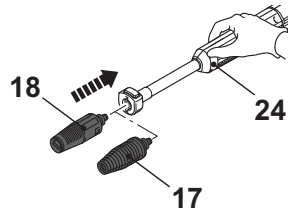

Fig. 9
- > Always use the vario nozzle (18) with the extension lance (24) attached (Fig. 9).